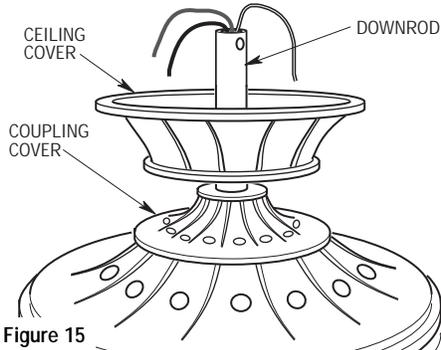

Figure 15
- 15. Slide the ceiling cover over the downrod until it rests on the coupling cover (Figure 15). Be sure the cover is oriented correctly, with the large opening at the top.